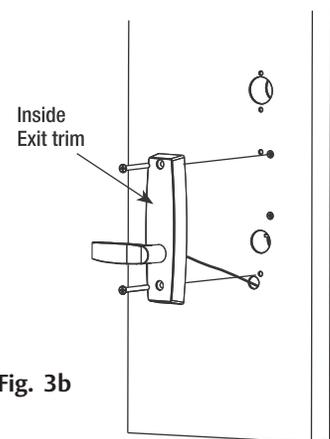

Fig. 3b
2. Mount inside trim lever using (2) # 1/4" -20 x 3" Phillips oval head machine screws. (Fig. 3b).